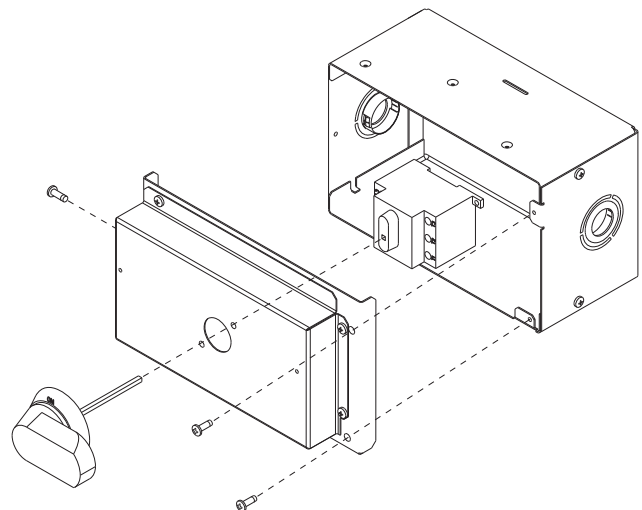

Fig. 34 — NFD Handle and Shaft Assembly
5. Insert the shaft with the cross pin on the top of the shaft in the horizontal position. See Fig. 34.
10. Secure the handle to the painted cover with (2) screws and lock washers supplied.
11. Engaging the shaft into the handle socket, re-install (3) hex screws on the NFD enclosure.